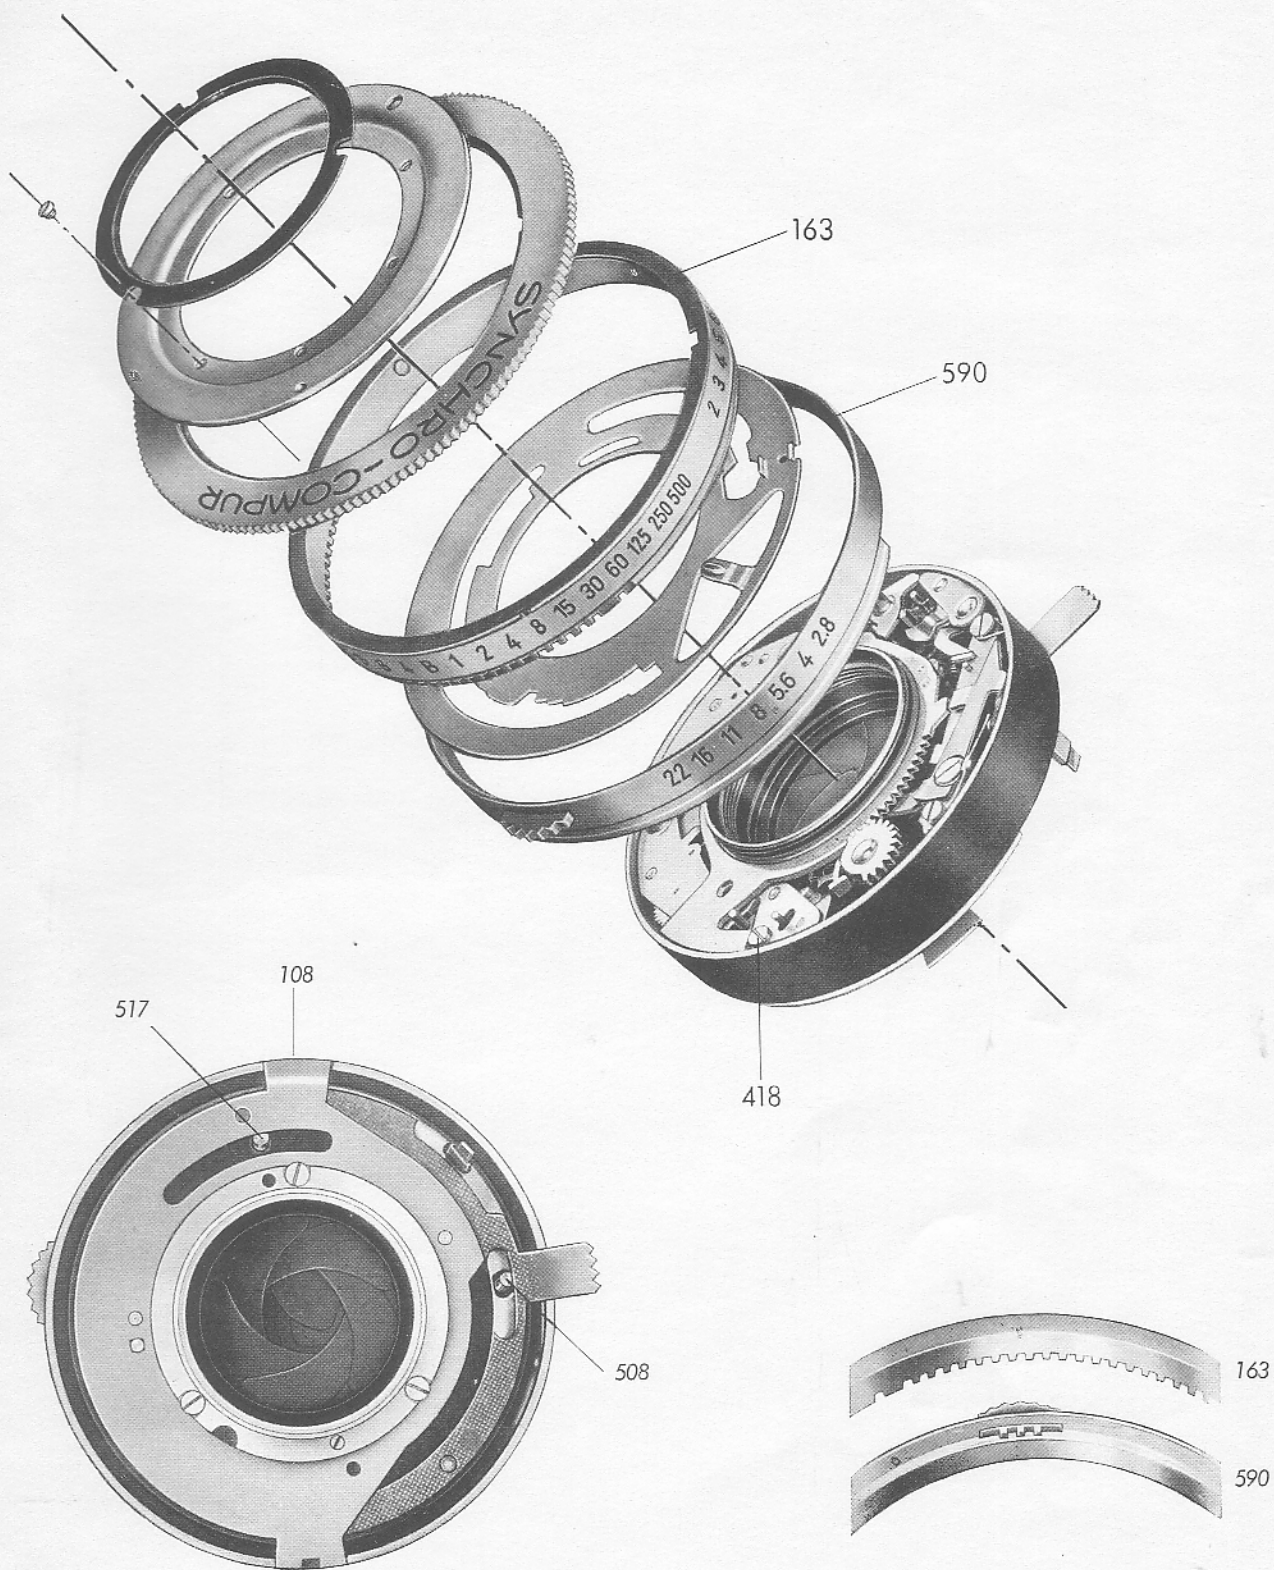

Figure 6-2
- A. DIAPHRAGM SETTING RING AND DIAPHRAGM RING: The relative position of diaphragm setting ring 590 and diaphragm ring 108 is determined by a groove cooperating with a lug. See Figure 6-2.
speed coupling ring 163 and cam ring 552 is determined by grooves cooperating with lugs. See Figure 6-2.